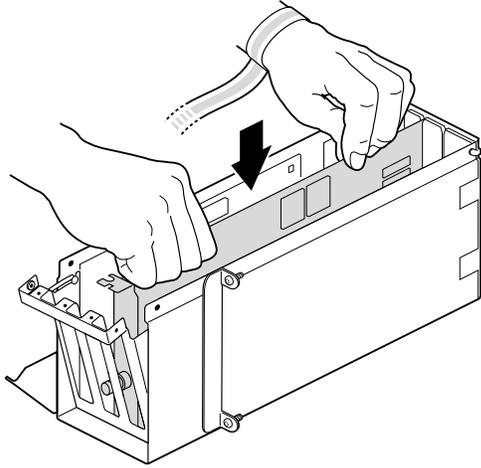

Figure 4-23 Inserting a PCI Board with an Extra-long Connector
4. Insert the PCI board into the connector in the PCI module, as shown in Figure 4-23. Press gently but firmly until the board snaps into place.